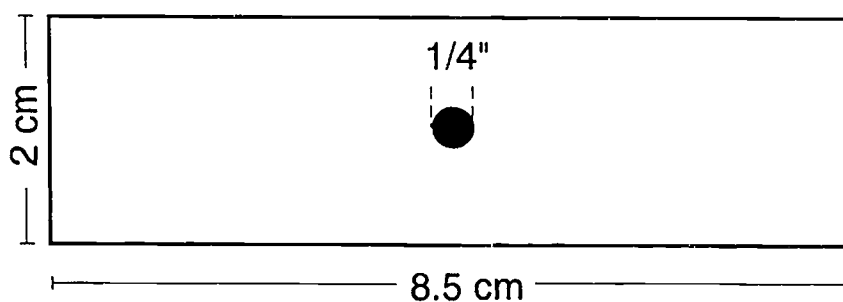

Figure 1. Drilling the wood strip.
1. Drili a 1/4" hole in the center of the wood strip (Figure 1). This strip will serve as the electrode (pencil) holder.